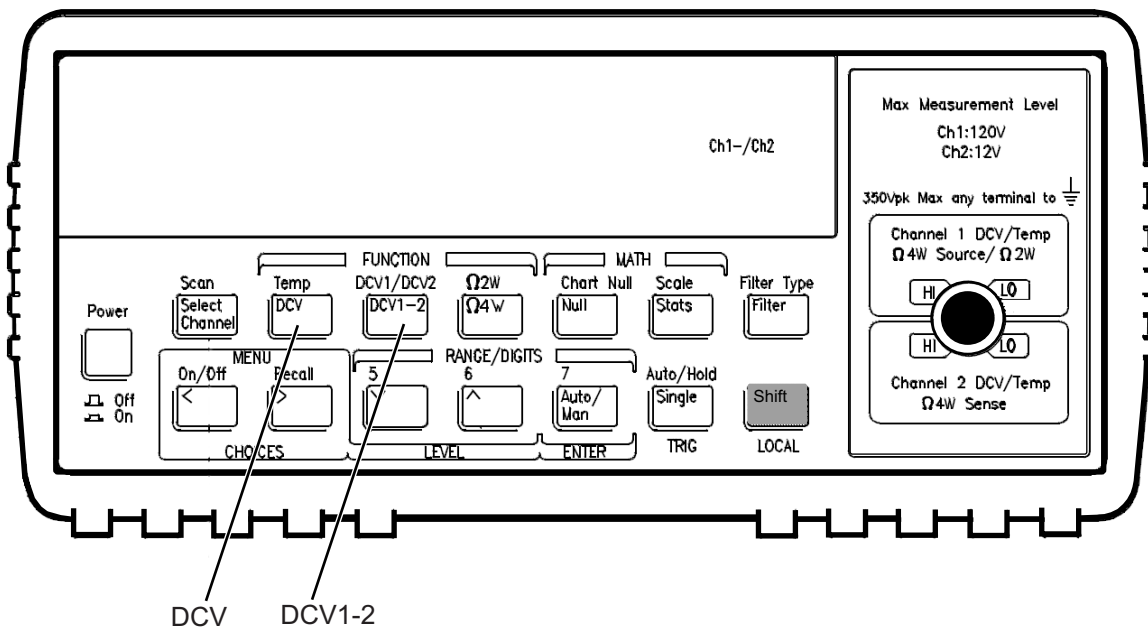

Figure 3-5. Measurement Sequence on Agilent 34420A
12. Press **DCV 1-2** on the Agilent 34420A as shown in Figure 3-5.